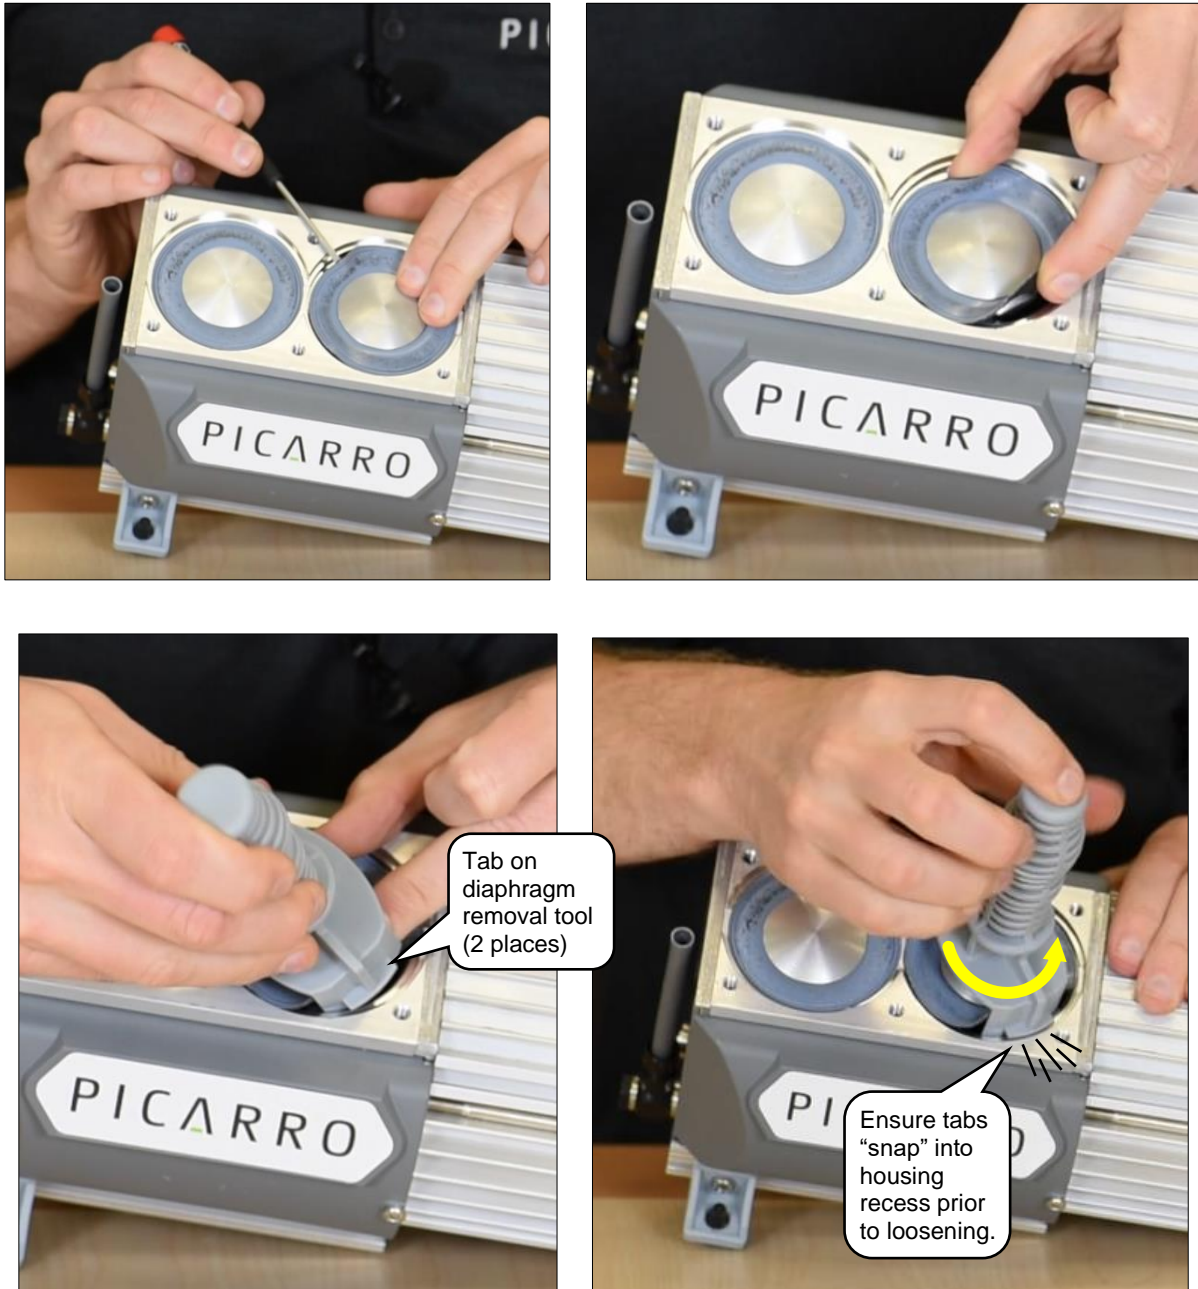

Figure 11 Lift Edges of Diaphragm and Insert Removal Tool
9. Using a small flathead screw driver (shown in Figure 11), carefully fold in the edges of the diaphragm to reveal the diaphragm support disc below.